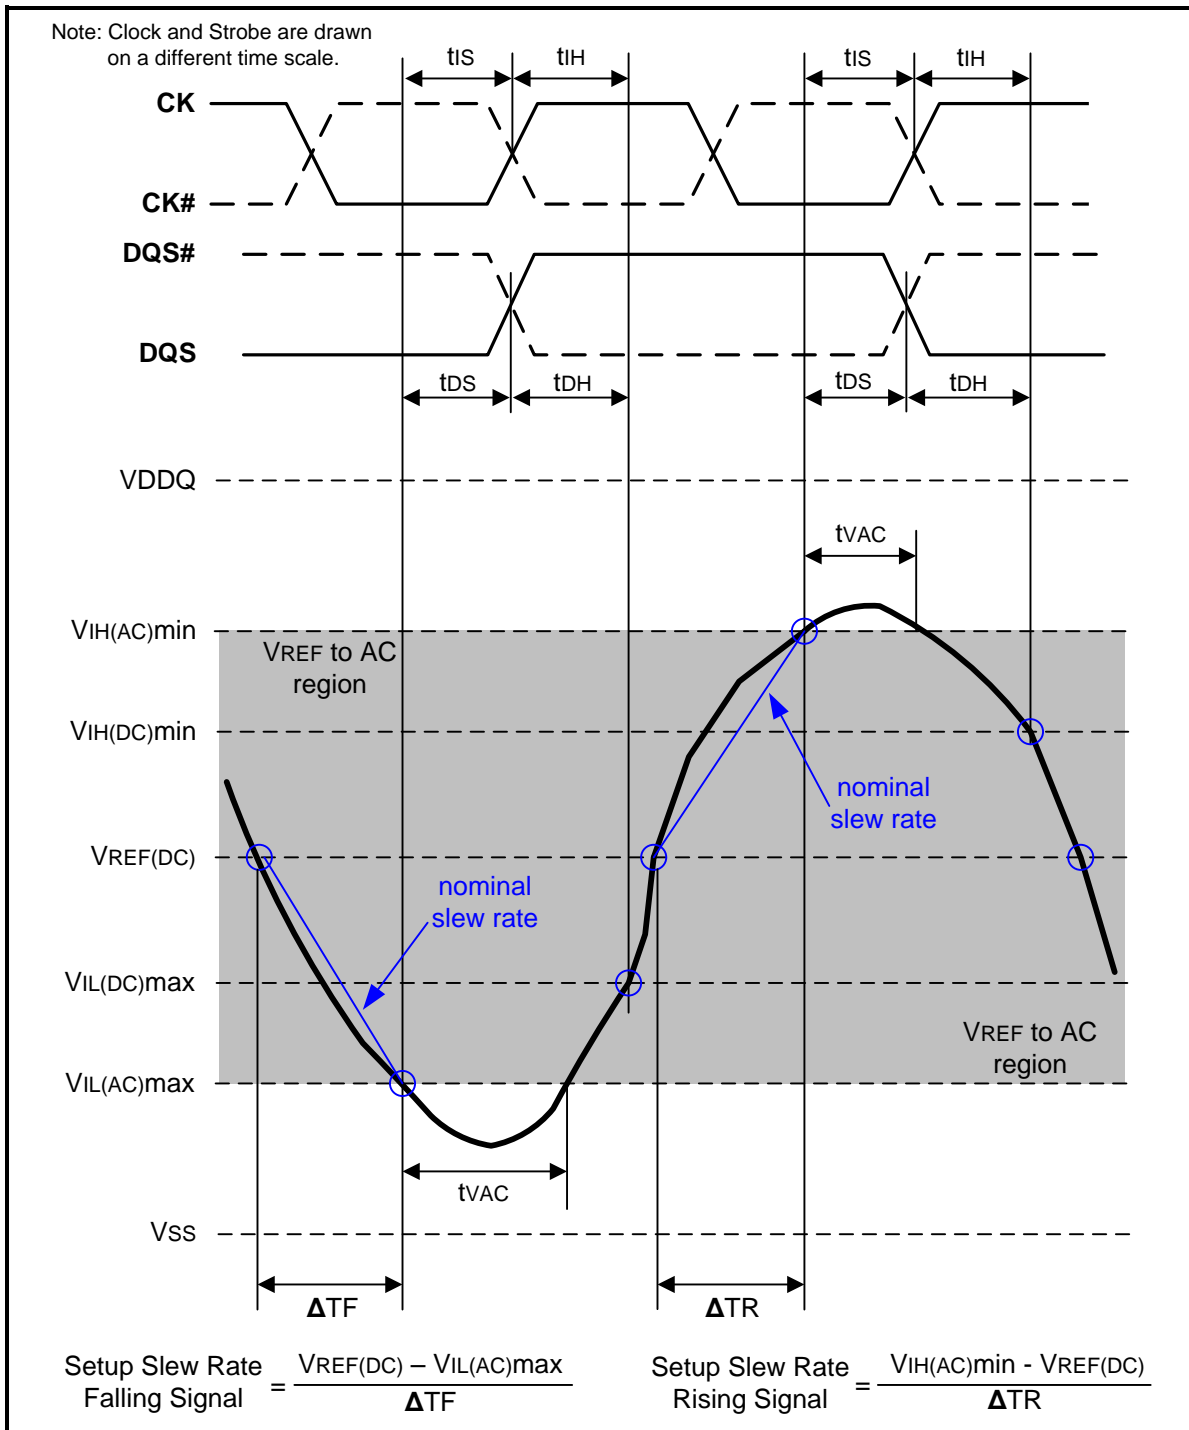
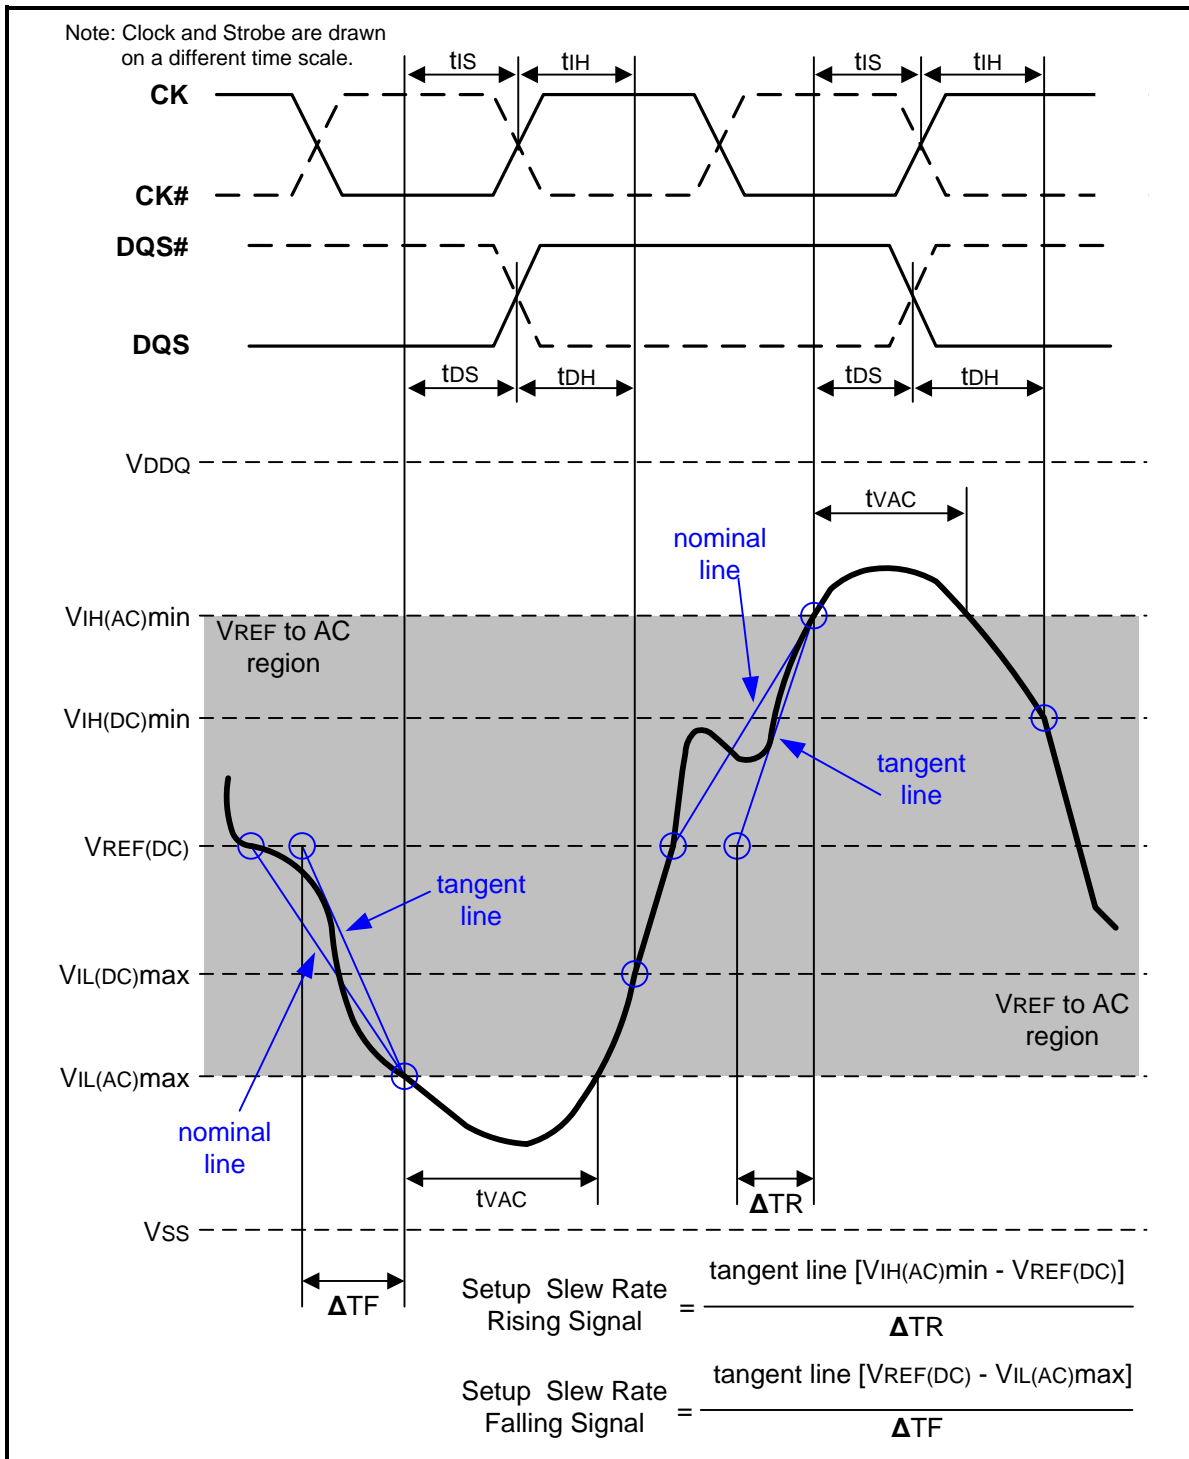

Figure 107 – Illustration of nominal slew rate and tvAC for setup time tDS (for DQ with respect to strobe) and tIS (for ADD/CMD with respect to clock)
Figure 109 – Illustration of tangent line for setup time tDS (for DQ with respect to strobe) and tIS (for ADD/CMD with respect to clock)
Setup ( $t_{IS}$ ) nominal slew rate for a rising signal is defined as the slew rate between the last crossing of  $V_{REF(DC)}$  and the first crossing of  $V_{IH(AC)min}$ . Setup ( $t_{IS}$ ) nominal slew rate for a falling signal is defined as the slew rate between the last crossing of  $V_{REF(DC)}$  and the first crossing of  $V_{IL(AC)max}$ . If the actual signal is always earlier than the nominal slew rate line between shaded 'VREF(DC) to AC region', use nominal slew rate for derating value (see Figure 107). If the actual signal is later than the nominal slew rate line anywhere between shaded 'VREF(DC) to AC region', the slew rate of a tangent line to the actual signal from the AC level to  $V_{REF(DC)}$  level is used for derating value (see Figure 109).
Setup (tDS) nominal slew rate for a rising signal is defined as the slew rate between the last crossing of VREF(DC) and the first crossing of VIH(AC)min. Setup (tDS) nominal slew rate for a falling signal is defined as the slew rate between the last crossing of VREF(DC) and the first crossing of VIL(AC)max (see Figure 107). If the actual signal is always earlier than the nominal slew rate line between shaded 'VREF(DC) to AC region', use nominal slew rate for derating value. If the actual signal is later than the nominal slew rate line anywhere between shaded 'VREF(DC) to AC region', the slew rate of a tangent line to the actual signal from the AC level to VREF(DC) level is used for derating value (see Figure 109).